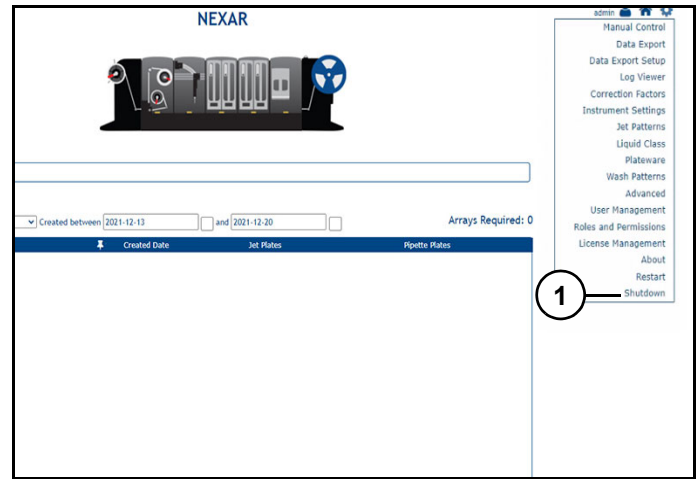

Figure 43
Restart (1) (Figure 43): Restarts instrument software.
Shutdown (1) (Figure 43): Shuts down instrument software.